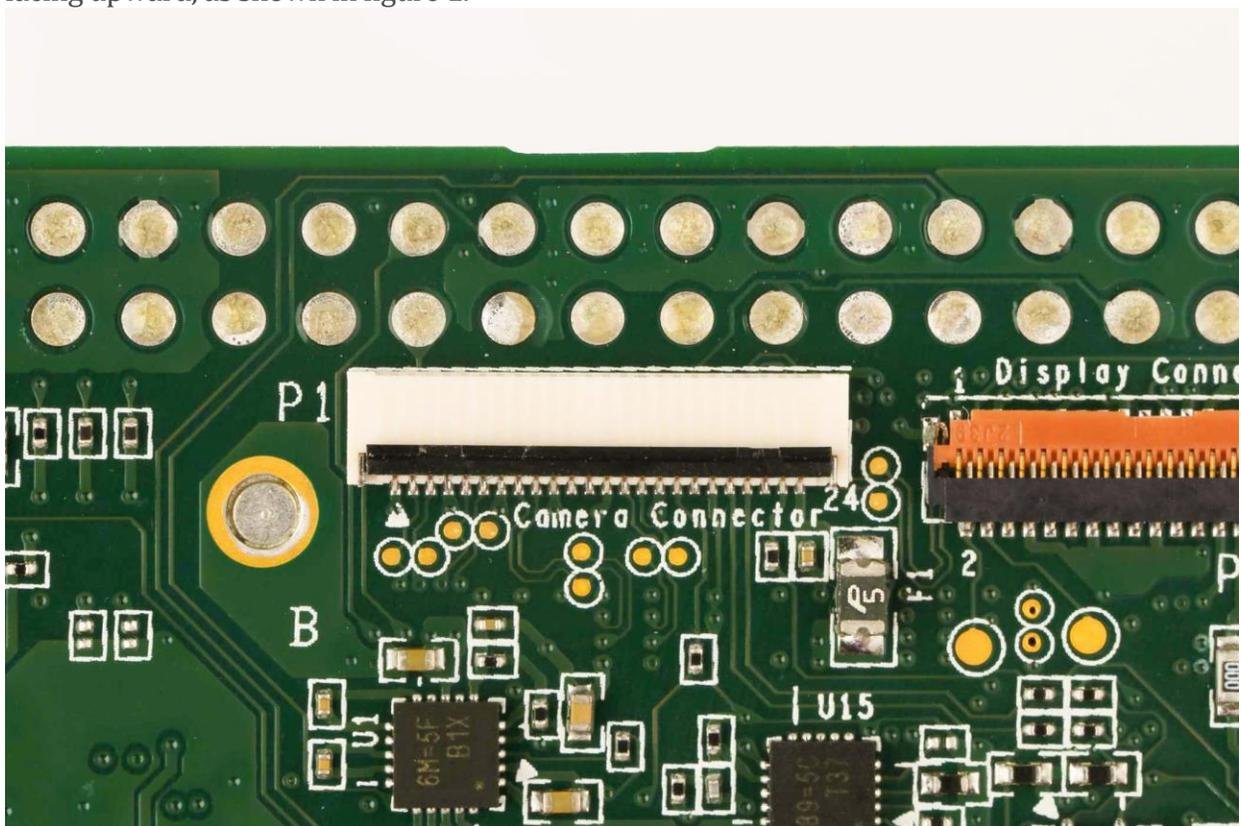

Figure 1. The camera connector with the latch open
2. On the bottom of the Dev Board, locate the CSI "Camera Connector" and flip the small black latch so it's facing upward, as shown in figure 1.